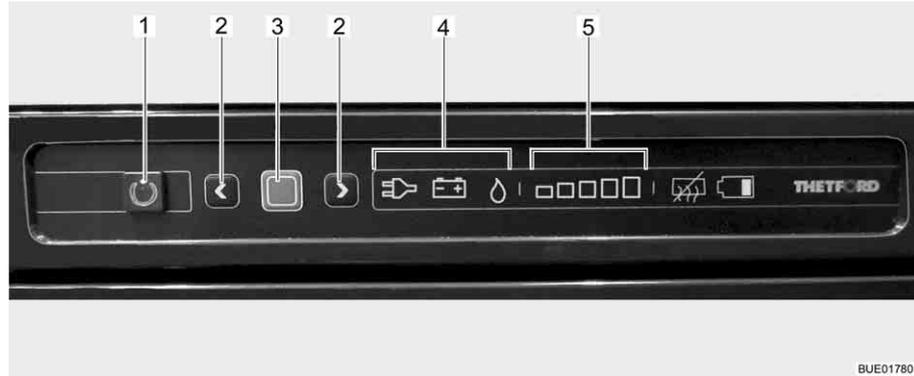

Fig. 196 Operating controls for the refrigerator
The current operating mode is indicated by an illuminated symbol (Fig. 196,4) on the operating unit.
When turned on the refrigerator automatically selects the thermostat position selected last. This position can be adjusted manually by using the arrow keys (Fig. 196,2). The illuminated bars of the cooling level indicator (Fig. 196,5) show the selected thermostat position. The refrigerating temperature for the three types of energy is set with the arrow keys. It takes a few hours till the refrigerator reaches its normal operating temperature. When changing over the operating mode the thermostat setting will be maintained. The refrigerating temperature is retained regardless of the type of energy being used.
- Press and hold the On/Off button (Fig. 196,1) for 1 second. Button (Fig. 196,1) lights up green. To save energy, after approximately 10 seconds the display is dimmed.
- Press confirmation button (Fig. 196,3). The current setting of the operating is displayed.
- If the operating mode gas is not set: To change the setting, press and hold the confirmation button (Fig. 196,3) for approximately 2 seconds.
- Using the arrow keys (Fig. 196,2) select the operating mode gas. Gas supply is open. Ignition will take place automatically. A ticking sound can be heard until ignition has been completed successfully.
- Press and hold the confirmation button (Fig. 196,3) for about 2 seconds.
- Press confirmation button (Fig. 196,3) again. The current cooling level is shown by the illuminated bars (Fig. 196,5).
- To change the setting, press the arrow keys (Fig. 196,2) until the desired setting is displayed.
- Press and hold the On/Off button (Fig. 196,1) for about 2 seconds. All lights go out. Refrigerator is switched off.
- If 230 V operating mode is not set: To change the setting, press and hold the confirmation button (Fig. 196,3) for approximately 2 seconds.
- Using the arrow keys (Fig. 196,2) select the 230 V operating mode.
- If the 12 V operating mode is not set: To change the setting, press and hold the confirmation button (Fig. 196,3) for approximately 2 seconds.
- Using the arrow keys (Fig. 196,2) select the 12 V operating mode.